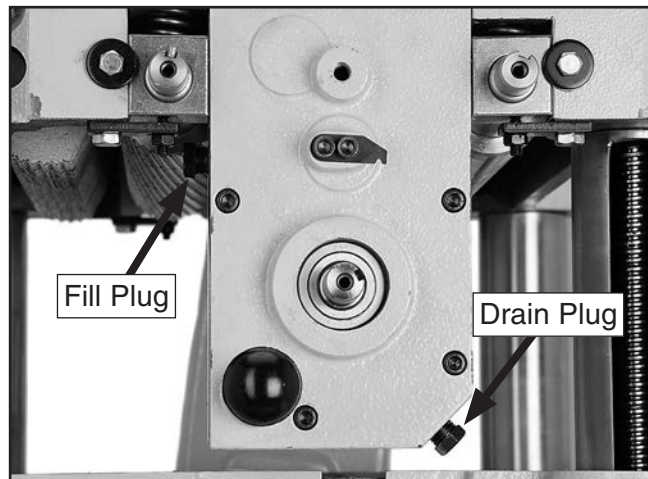

Figure 5. Drain and fill plug locations.
16. Thoroughly drain planer gearbox into a drain pan by removing drain plug shown in **Figure 5**.
9. Refill gearbox with ISO 320 gear oil via fill plug shown in **Figure 5** on **Page 3**.